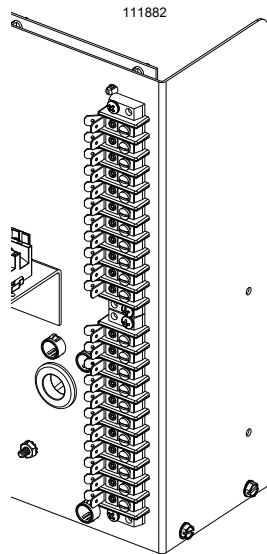

Figure 11: 22 Position Terminal Strip
All accessory equipment is hooked-up to the 22 terminal barrier strip located on the back of the control box. See Figure 11. There are no installer connections inside the control box. **NO ACCESSORY EQUIPMENT SHOULD BE INSTALLED IN THE CONTROL BOX!**
The thirteen (13) command inputs for the LPX1000 require a switch closure to COMMON of less than 100 OHMS resistance and for more than 100 milliseconds duration. Two of the inputs - ALTERNATE and RADIO OPEN - are momentary inputs where the signal must be released and re-entered to be recognized. The remaining inputs can be continuous signals. A label on the left side of the control box lists the function of each of the terminals on the barrier strip, see Figure 11. Also see the Reference Chart on Page 20 and 21.